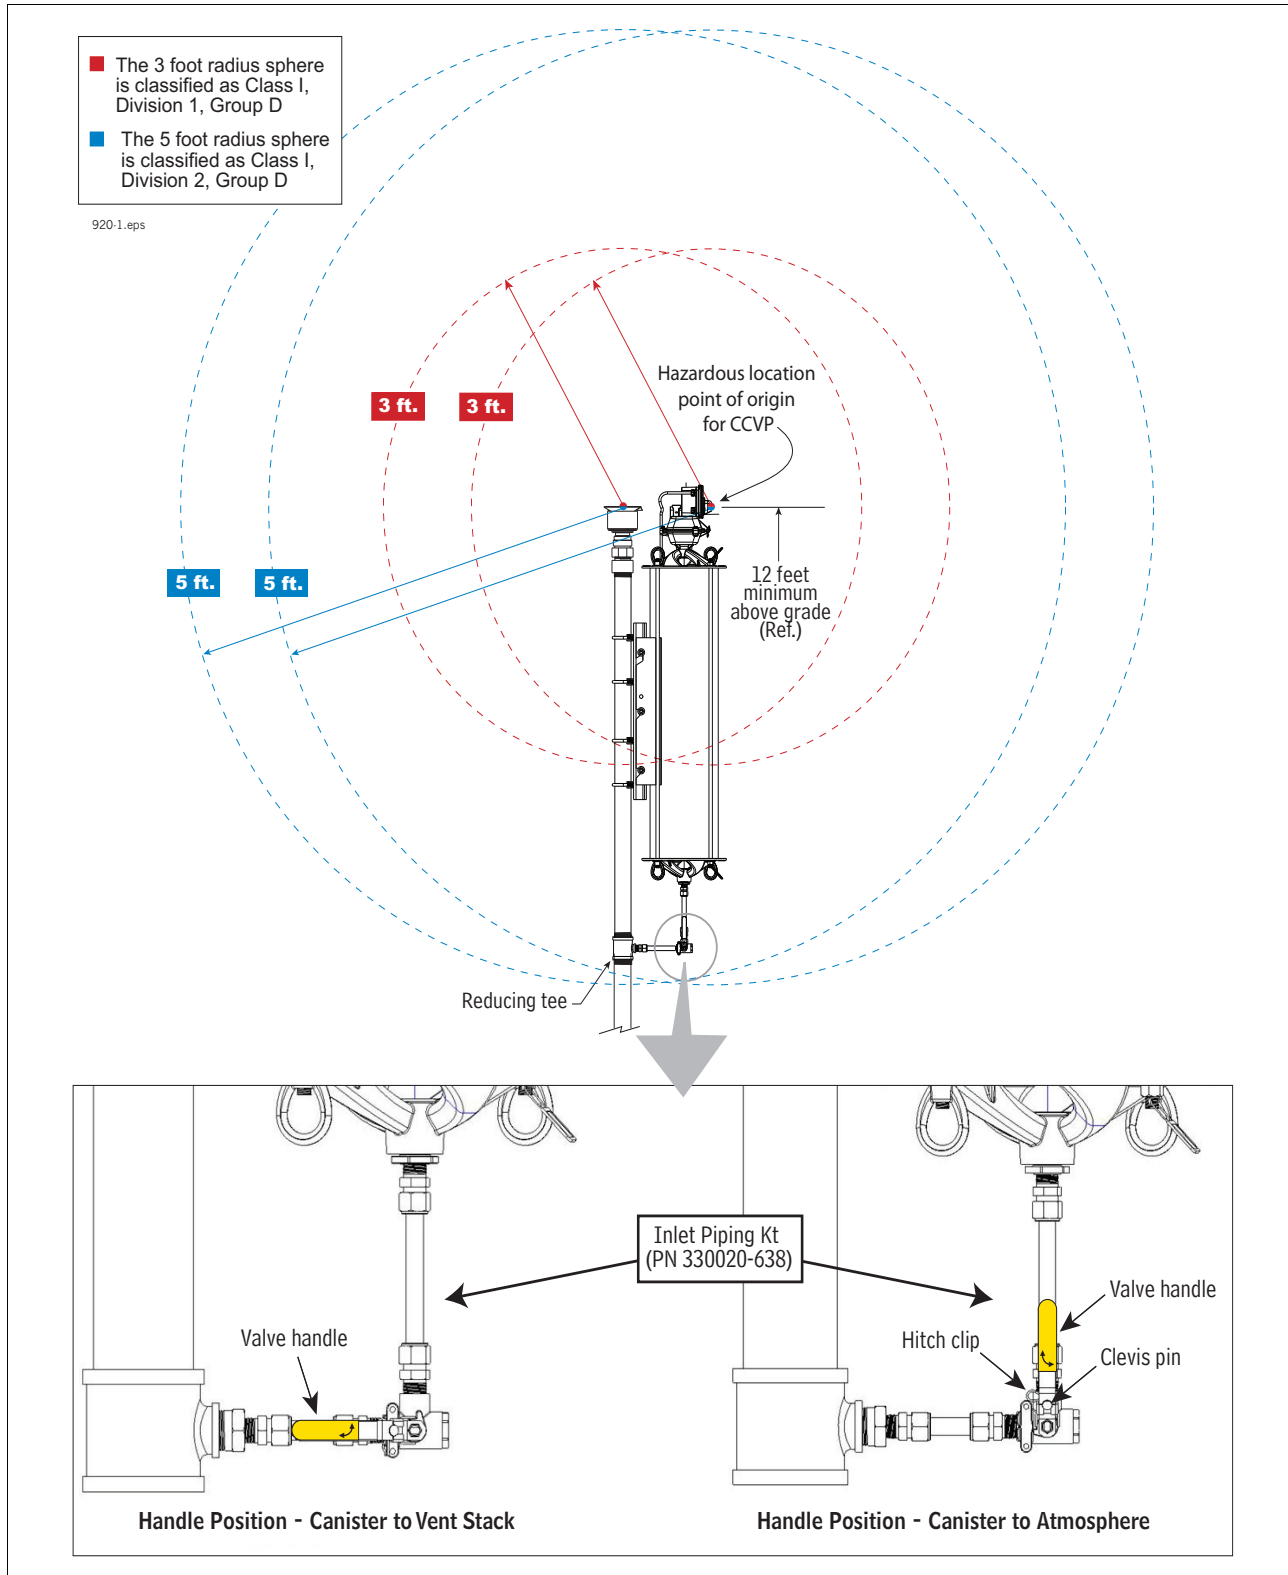

Figure 3. Inlet plumbing detail and classified area definition
8. Figure 3 shows important Class I Div 1, Group D and Class I Div 2, Group D radius spheres and operability test valve handle positions of the installed canister.
15. Connect all lower fittings, valve and tubing between the vent pipe and the lower manifold on the CCVP (see Figure 3).
17. Confirm ball valve is in the open, canister to vent stack position (per Figure 3), then insert the clevis pin and secure with the hitch pin.
- The Hazardous Location Area Classification shown for the CCVP in Figure 3 must be considered from the point of origin for all offset mountings.